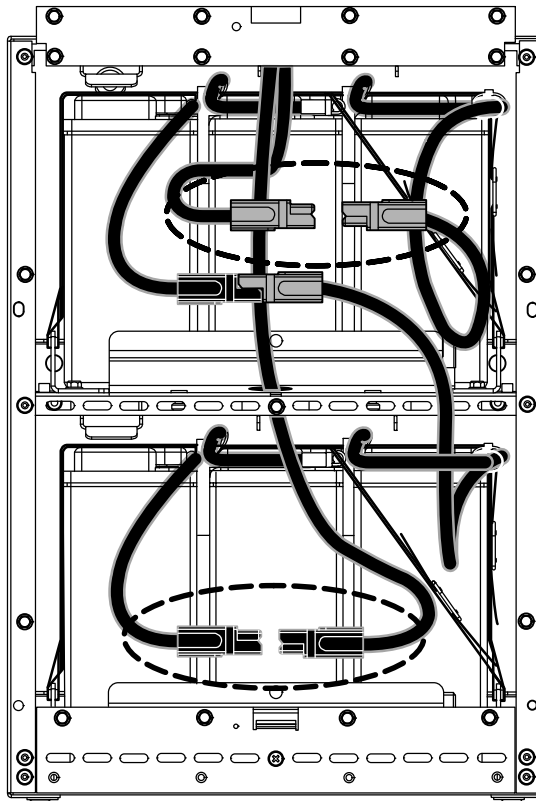

Figure 22. Connecting the Battery Circuit Breaker Wires
16. Connect the wires from the electronics module (already routed to the front of the UPS) to the battery terminals, as described below (see Figure 22):